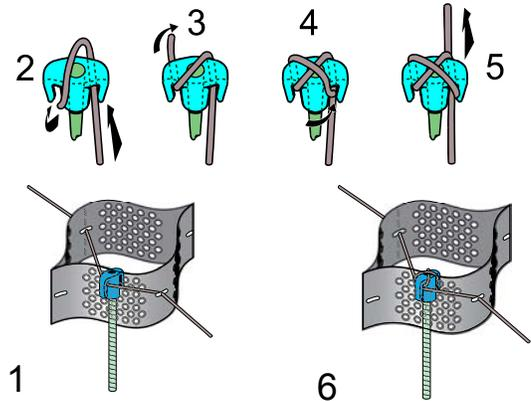

Figure 16 Moore Hitch Non-Slip Connection
- The recommended method of attachment uses the ATRA® Anchor and a mooring hitch Presto Geosystems refers to as the “Moore Hitch”. See Figure 16.